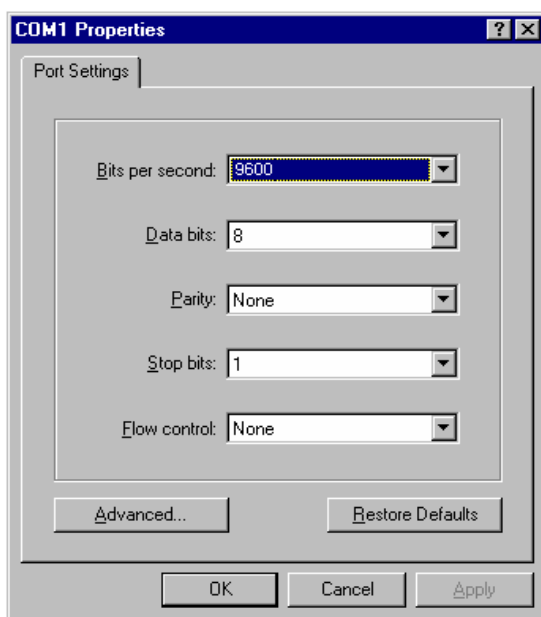

Figure 4-4 Set communication parameters
Step 4: Click <OK>. The **Port Settings** tab, shown in Figure 4-4, appears where you can set serial port parameters. Set the following parameters: